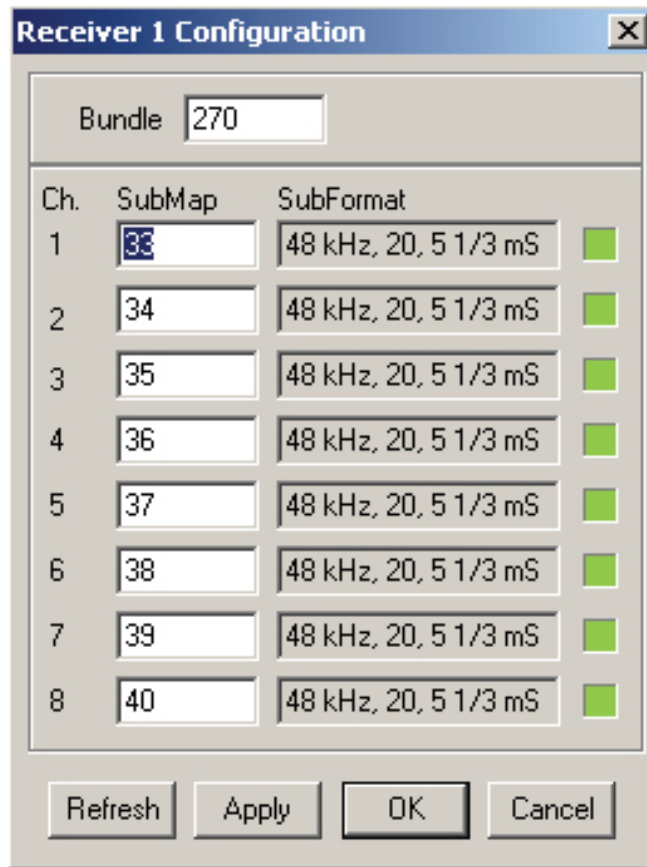

Figure 5-3: CobraNet™ Receiver settings page
- Receiver setup: This section covers the CobraNet™ receivers (see Figure 5-3). The CS496112 chipset allows for up to 8 receivers, each of up to 8 channels, subject to an overall channel count of 2 analog output channels and 8 network audio streaming channels.. The settings are:-